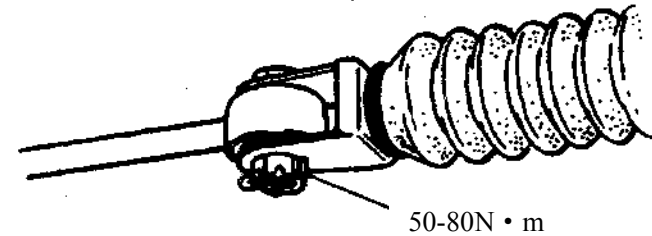

Fig.3.6-9
5) Connect the steering longitudinal pull rod to the steering boom and screw the groove type nut within specified torque range. Please refer to Fig.3.6-9.